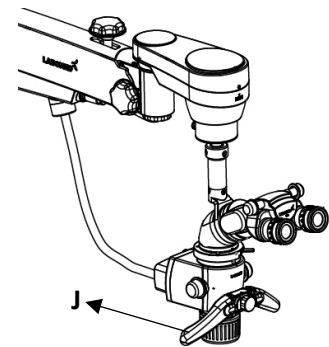

Fig. 46
2. Fine focusing is done through the CMO (E) fine focus ring.
3. Absolute centering of focused area in field of view can be done by manual handles (J). Ref. Fig. 46